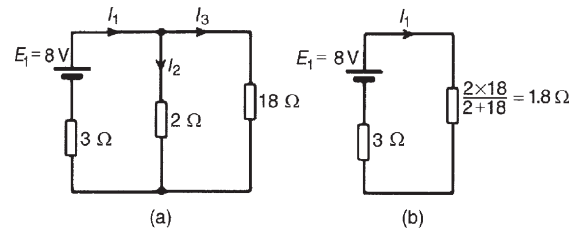
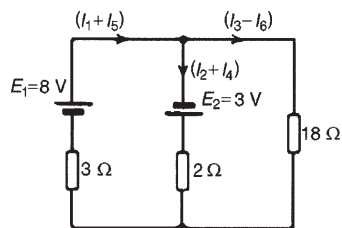

Figure 13.22
Figure 13.24
1. Removing source  $E_2$  gives the circuit of Fig. 13.22(a)
2. The current directions are labelled as shown in Fig. 13.22(a),  $I_1$  flowing from the positive terminal of  $E_1$
From Fig. 13.22(b),
From Fig. 13.22(a),
5. Superimposing Fig. 13.23(a) on to Fig. 13.22(a) gives the circuit in Fig. 13.24